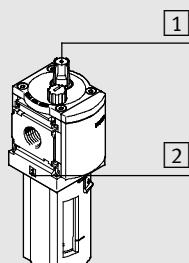

Fig. 1 / 图 1
- Note the direction of flow from 1 to 2. The numbers [2] on the product housing serve as an orientation (→ Fig. 1).
产品外壳上的数字 **2** 可用于定向（→ 图 1）。